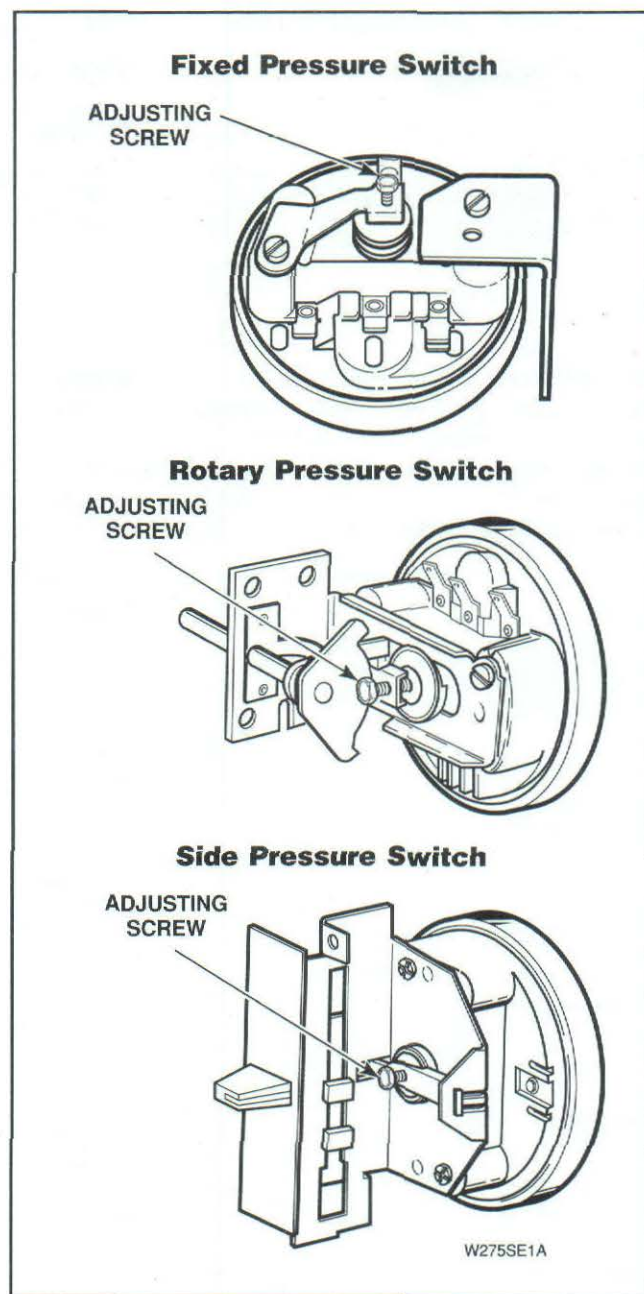

Figure 59
32. PRESSURE SWITCH (Refer to *Figure 59*)